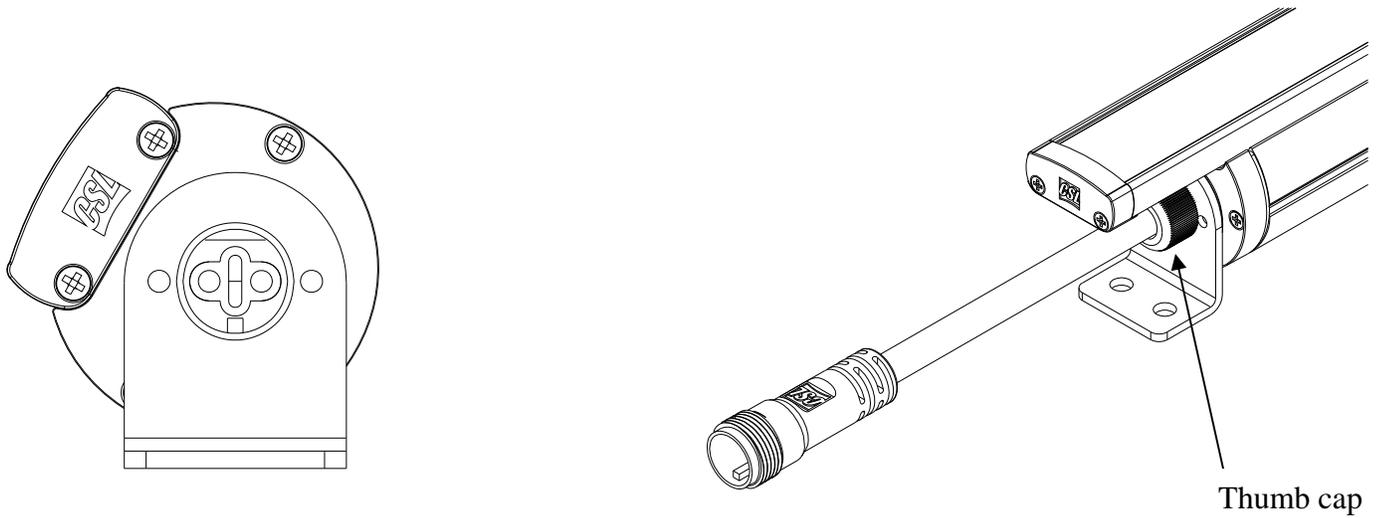

FIG 4.
6. The eco-cove can be adjusted 60 degrees in each direction, to do so loosen the 2 thumb caps at either end of the fixture and tilt the fixture to the desired angel. Securely retighten the 2 thrum screws to lock the fixture into position. (FIG 4)